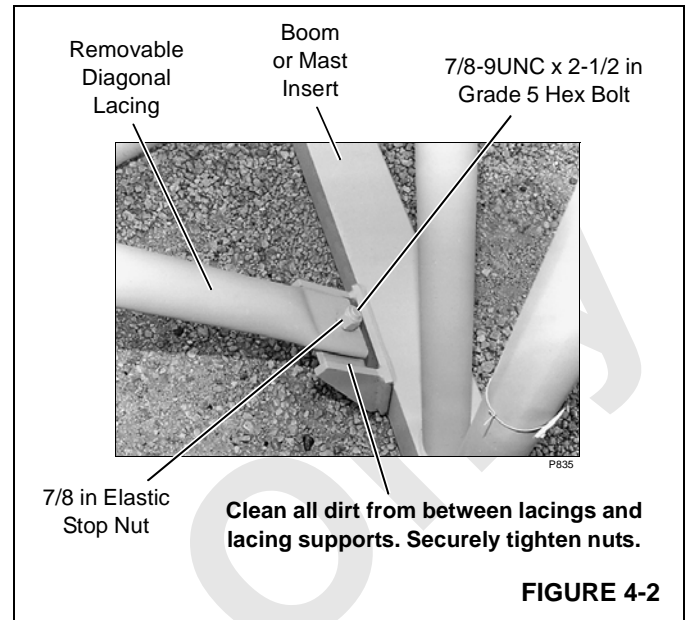

FIGURE 4-2
2. Reinstall proper number of removable lacings in each insert with bolts and stop nuts as shown in Figure 4-2.